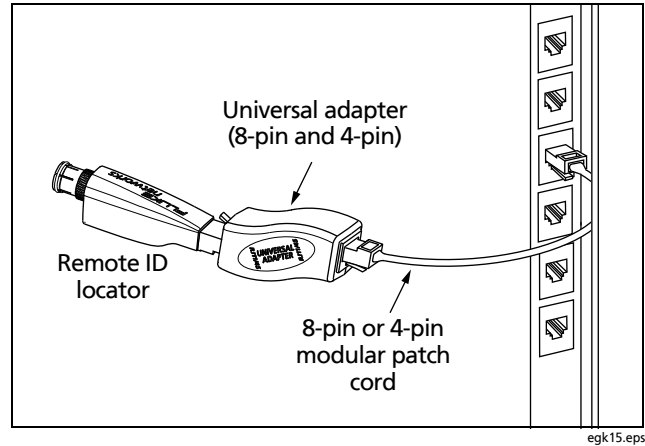

Figure 4. Connecting a Remote ID Locator in a Confined Area or to an RJ11 Jack
To connect a remote ID locator to a modular (RJ) jack in a confined area or to a 4-pin modular jack (RJ11), use the optional universal adapter and a patch cord, as shown in Figure 4.